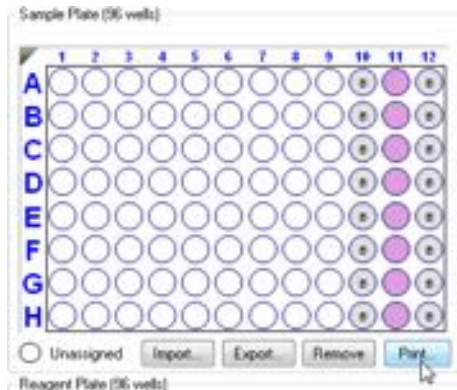

Figure 9-24: Sample Plate Print Button
- 1. In the **Sample Plate Map** (see Figure 9-24), click **Print**.